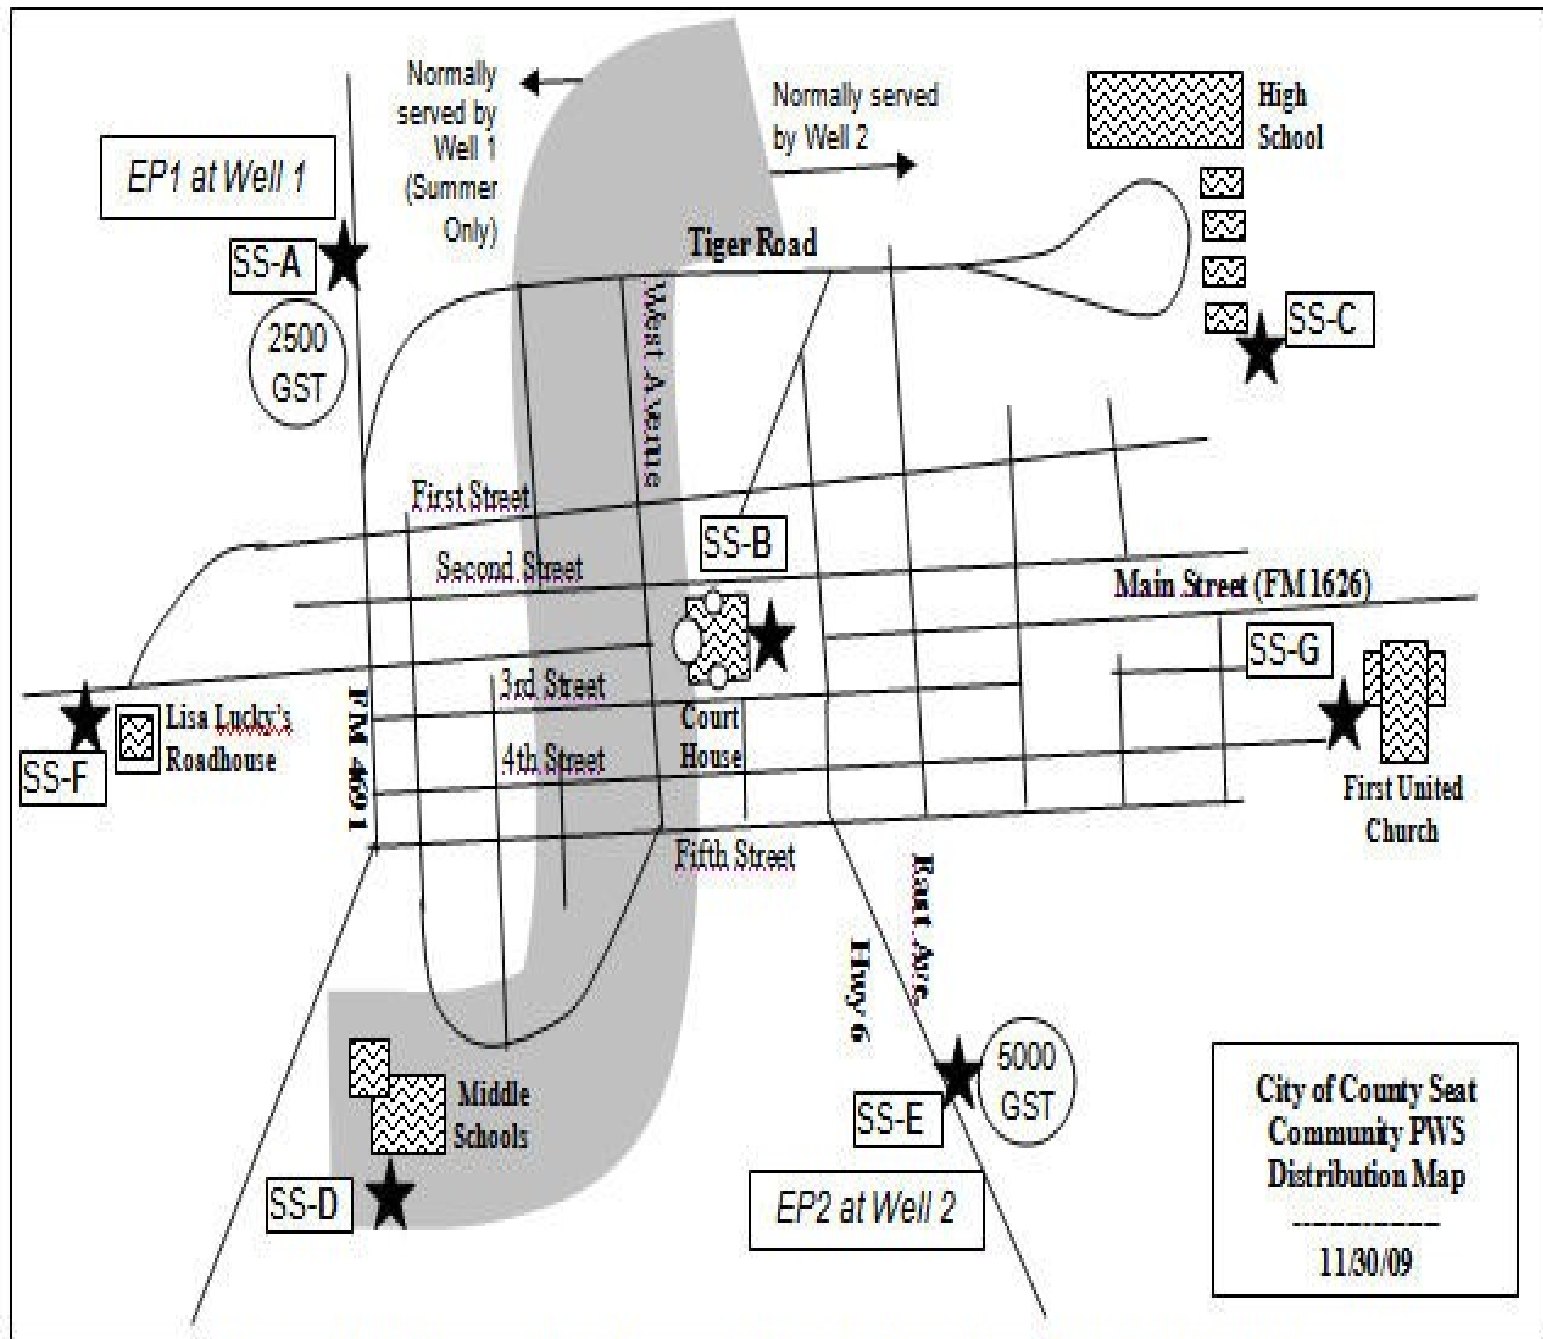

Figure 2-1 Example of Source Monitoring Plan Distribution Map
**Table 2-6. Example of Source Monitoring Plan Distribution Sites and Sources Link Table For Figure 2-1, A Community PWS with Two Wells and Seven Coliform Sites**